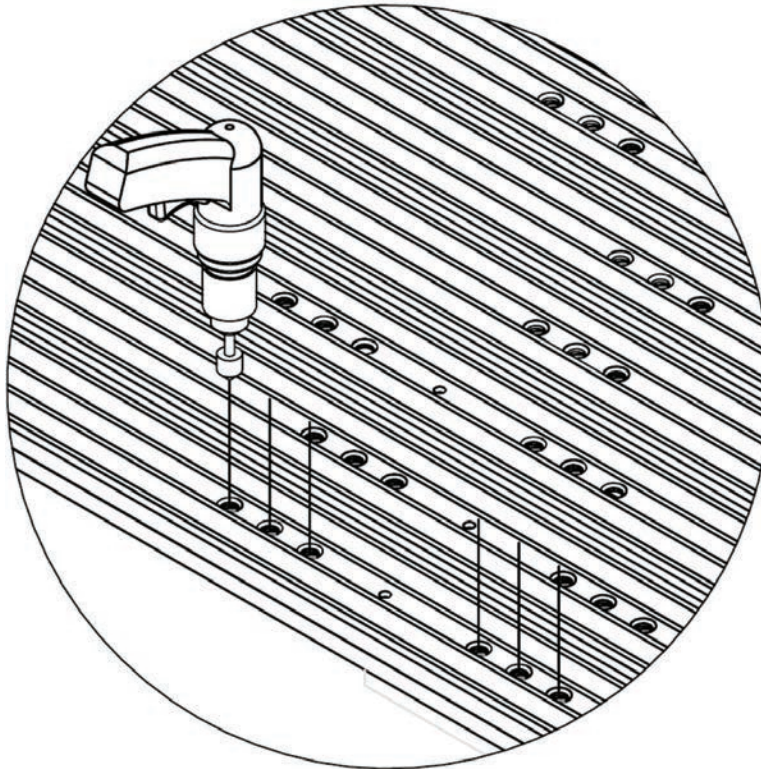

Figure 32
- f) Countersink each of the 1/2" [13 mm] holes with a 1"x 90° countersink until the floor bolts can be inserted flush with the top surface of the slat/plank. (Figures 32 and 33).